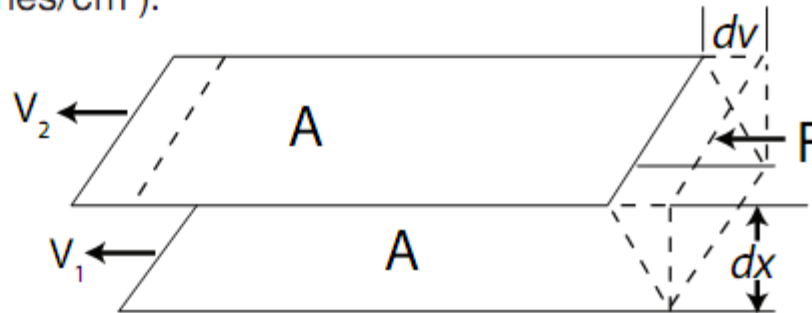

figure 2
Newton defined viscosity by the model in figure 2 below. Two parallel planes of fluid of equal area "A" are separated by a distance "dx", moving in the same direction, but at different velocities ( $V_1$  and  $V_2$ ). He assumed that the force to maintain this difference in speed was proportional to the difference in speed throughout the liquid. Also called the velocity gradient. To express this, Newton said that " $\eta$ " is a constant for a given material and is called its "viscosity." The velocity gradient,  $dv/dx$ , is a measure of the change in speed at which the layers move with respect to one another. This describes the shearing a liquid goes through and is referred to as the "shear rate (S)" which is reported in "reciprocal second" ( $\text{sec}^{-1}$ ). The term  $F/A$  indicates the force per unit area required to produce the shearing action. It is referred to as "shear stress" and will be symbolized by " $F'$ ". Its unit of measurement is "dynes per square centimeter" ( $\text{dynes/cm}^2$ ).